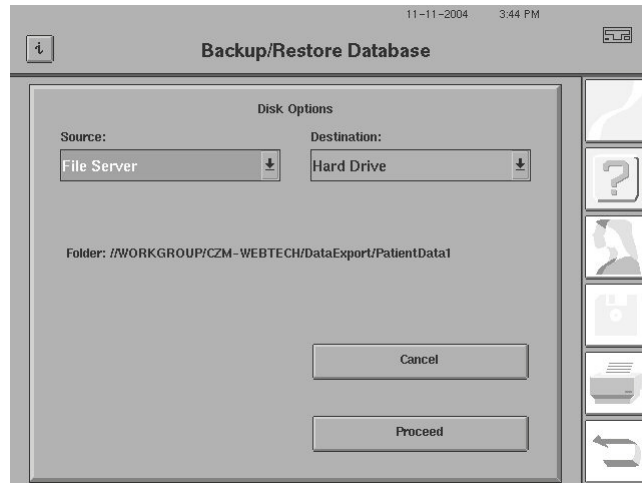

Figure 14.13 Disk Options Screen – Restoring a Database
- 1 Select *FILE FUNCTIONS*>*BACKUP/RESTORE* to open the Disk Options screen (Figure 14.13).